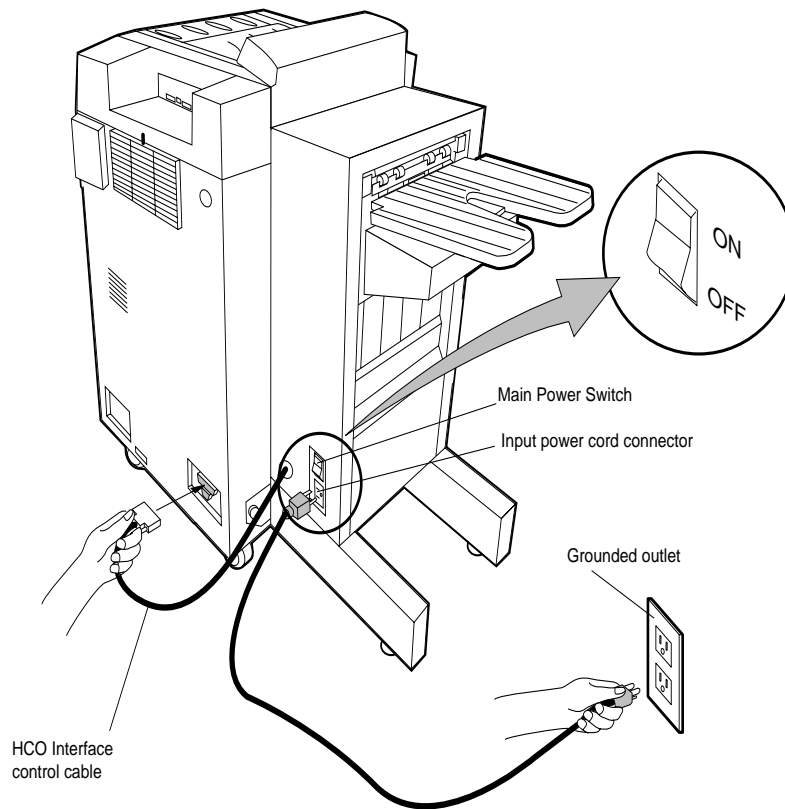

Figure 4-30 Connecting the HCO Signal Cable and Power Cord
1. Plug the signal cable from the HCO into the connector on the rear bottom right of the back of the printer. See Figure 4-30.